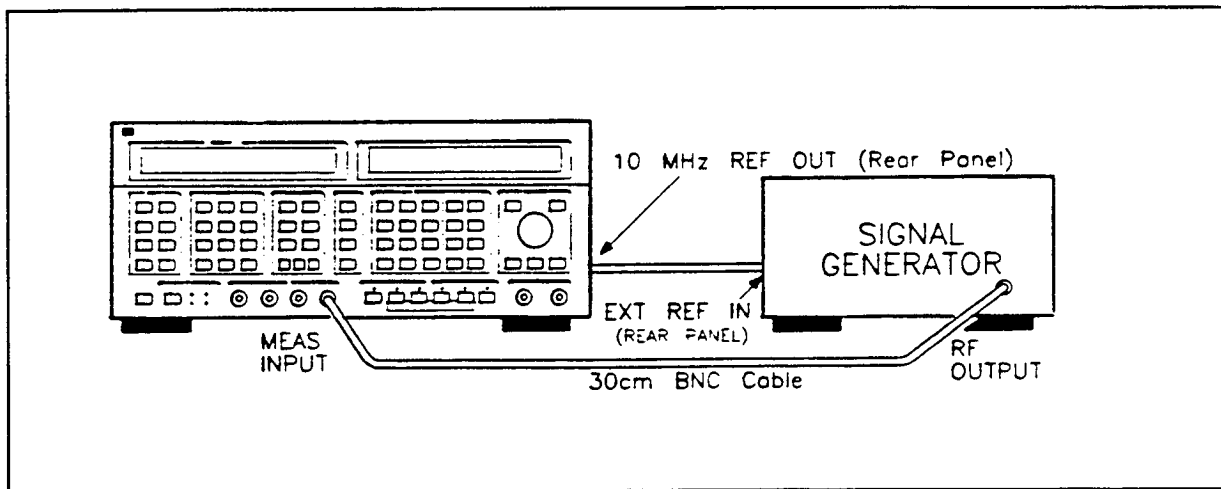

Figure 8-21. Counter Accuracy and Sensitivity Test Setup
1. Connect the equipment as shown in figure 8-21.